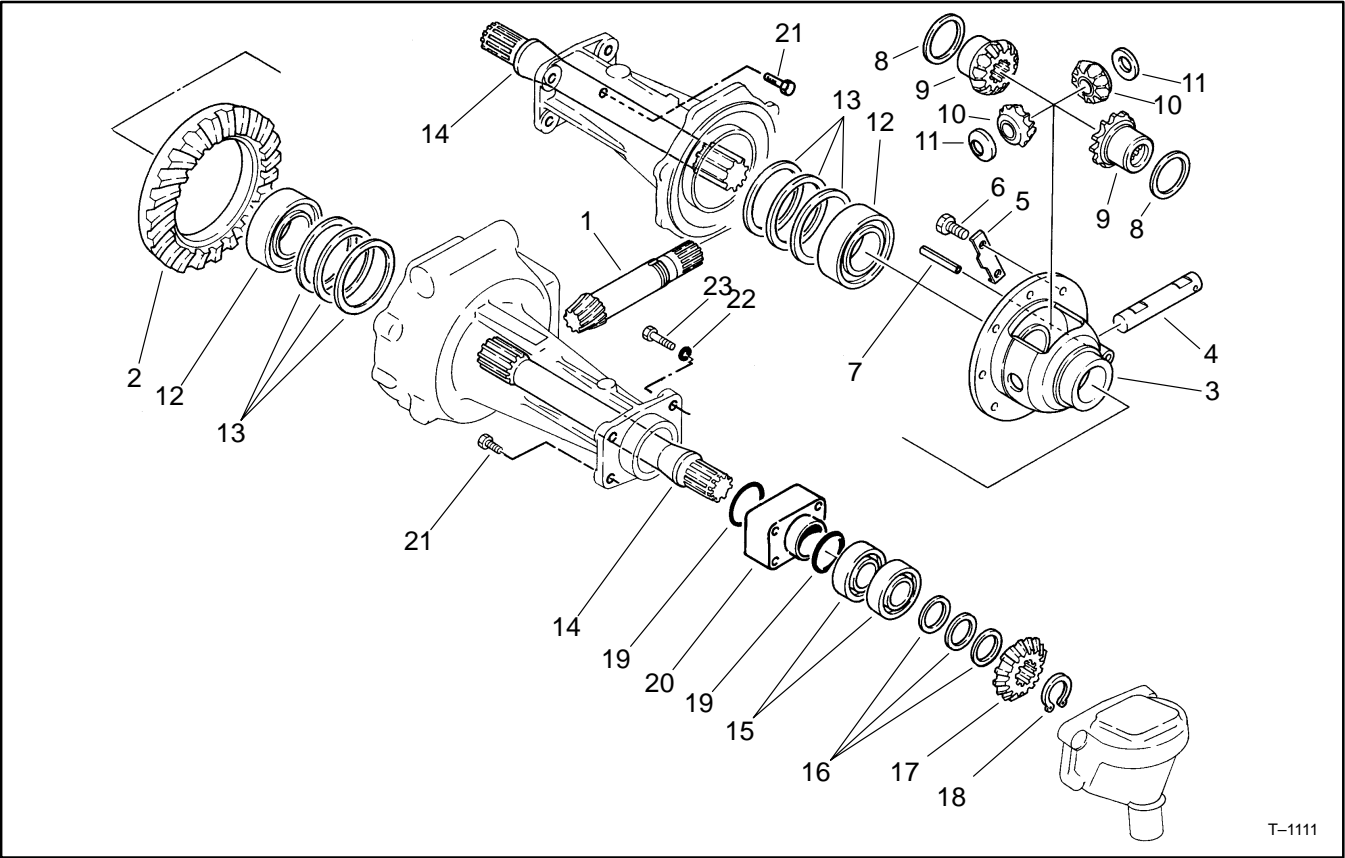

Figure 16
2. Remove bolts (Fig. 16, Item 23 and 21) securing gear case to axle housing and pull gear case complete with final drive case.
4. Pull out differential shaft (Fig. 16, Item 14) from housing (B).
5. Remove differential gear assembly (Fig. 16, Items 3–11) from axle housing (A).
6. Pull out differential shaft from housing (A).